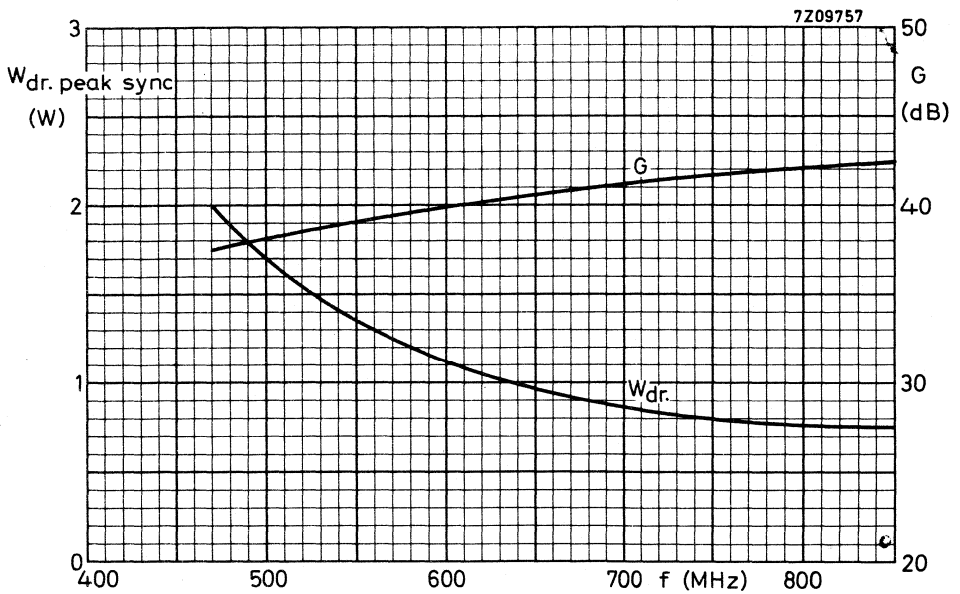

Fig. 6.
4. Dependent on operating frequency, see Fig. 6.